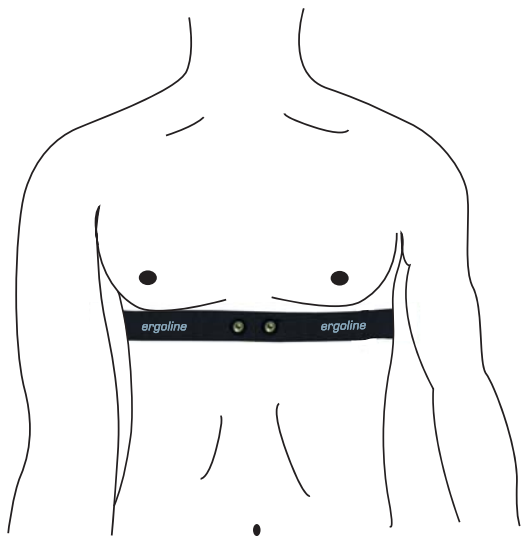

Figure 2
- When the chest belt is adjusted to the correct length, position it with the snap fasteners directly under the subject's sternum. (Figure 2)